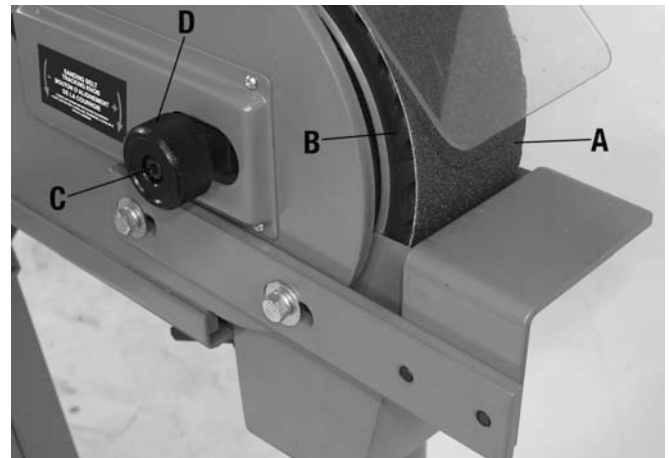

FIGURE 8
1. Turn the belt sander On and check where the sanding belt (A) Fig.8 tracks on the front wheel (B).
2. Loosen the tracking knob cap screw (C) Fig.8 using the supplied hex key.
3. Turn the tracking knob (D) clockwise to move the sanding belt to the left, or turn the tracking knob counterclockwise to move the sanding belt to the right.
4. Retighten the tracking knob cap screw (C) Fig.8.